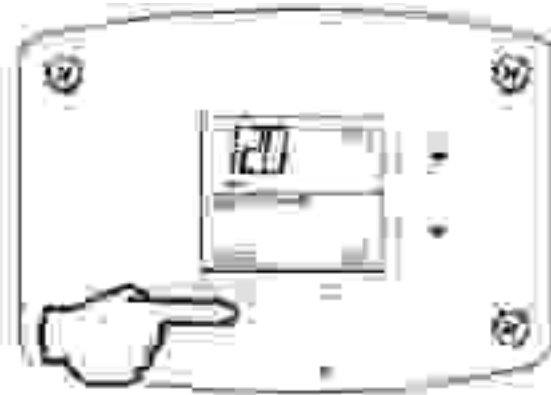

Fig. 34
2. Pressing 'Select' button will change display to next mode (Fig. 34).